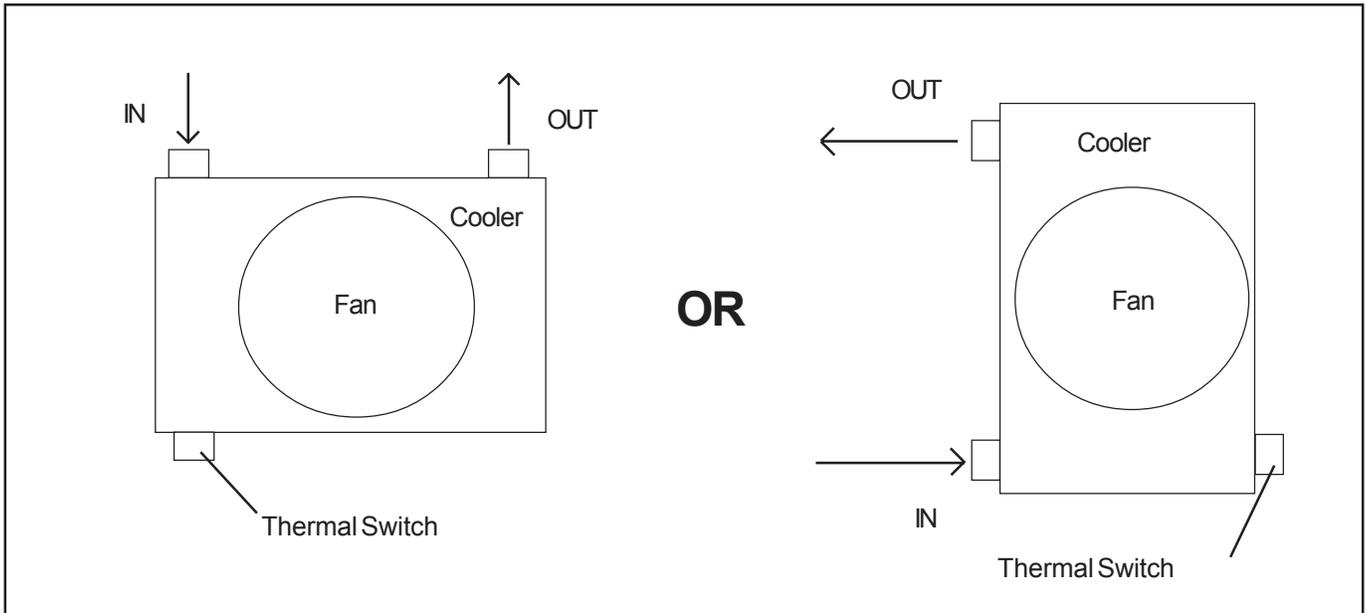

FIGURE 1
**STEP 1.** Decide on the best mounting position for your cooler. Do not attach the B&M Hi-Tek Cooling System to the chassis or frame rails that may flex during vehicle operation. This may result in leaks or oil cooler failure. Rubber isolation mounts are recommended for long service life. Remove the shipping covers from the fittings on the cooler. Note: the cooler must be properly positioned for proper function of the temperature switch (see figure 1). Improper positioning of the cooler switch may result in oil temperatures that exceed the switch ON point without activating the fan. Furthermore, if the switch, itself, is located in an area of heavy air flow, insulative material may be required to prevent excessive radiant cooling and improper switch function as well.